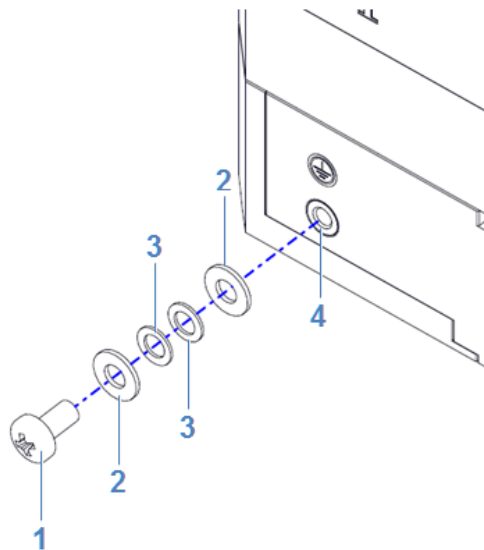

Figure 7: Protective earth connection set-up (explosive view)
2. Remove the screw and the safety and flat washers of the protective earth connection (p. Figure 7).